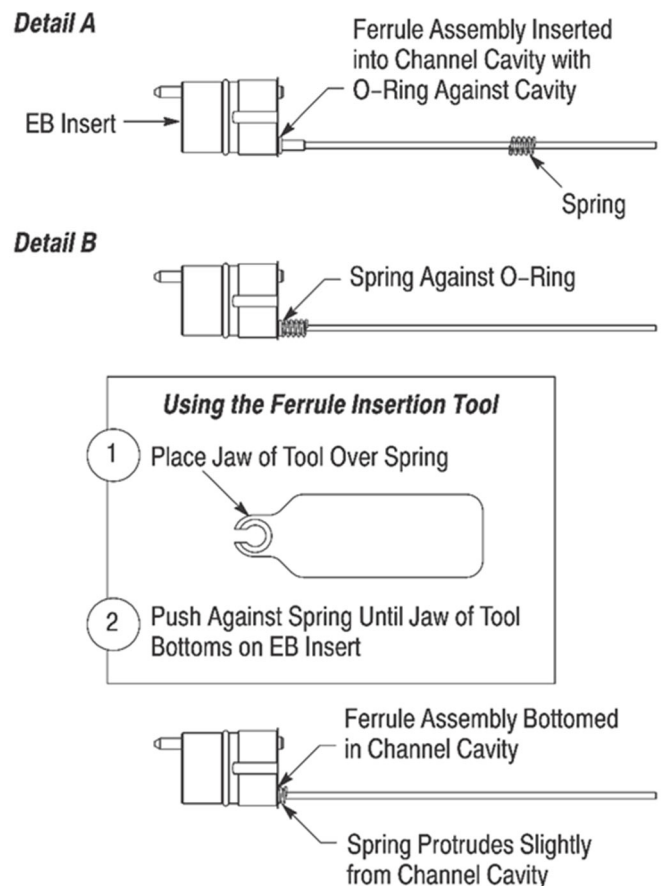

Figure 11
2. Align the end of the ferrule assembly with the appropriate channel cavity of the EB insert, and insert the ferrule assembly into the channel cavity until the O-ring is against the channel cavity. See Figure 11, Detail A. To avoid damage to the fiber, DO NOT push on the fiber to install the ferrule assembly.
3. Slide the spring over the fiber until it is against the O-ring of the ferrule assembly. See Figure 11, Detail B. Using the ferrule insertion tool, **push on the spring** until the ferrule assembly bottoms in the channel cavity (the O-ring will be inside of the cavity, and the spring will protrude slightly from the cavity). See Figure 11, Detail B.